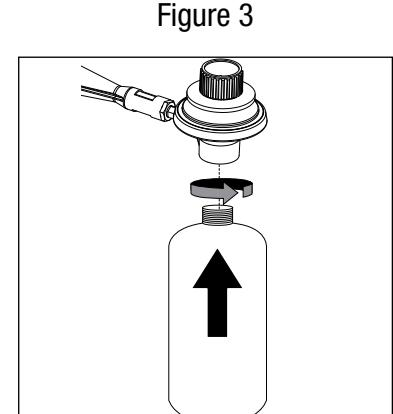

Figure 3
3. Insert and rotate LP gas tank clockwise until they fit snugly together. HAND TIGHTEN ONLY. Be careful not to cross-thread when screwing in tank (Figure 3).